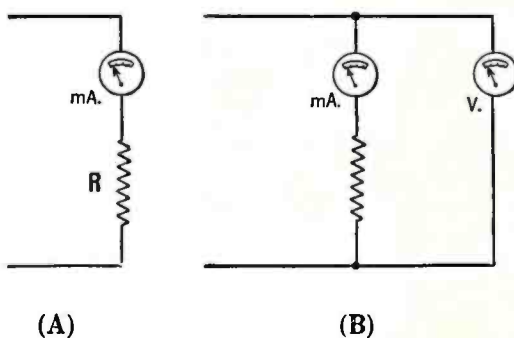

Fig. 1
The theory may seem a little complicated, but the method about to be described is simple and quick. There is a definite, though unknown, amount of resistance between the two points whose difference in potential is desired. Let this resistance be R, let the current through it be I, and the true voltage across it be E. Then by Ohm's Law $R = E/I$ expressed in ohms, volts, and amperes. Of these three unknown quantities, the current is determined most easily, by inserting a milliammeter in series with the load as shown in Fig. 1 (A) and noting its reading. Now connect the low-resistance voltmeter across both the milliammeter and the load, as shown in Fig. 1 (B). This will immediately cause a change in the reading of the milliammeter, as explained above. Let this new current reading be I' and let the reading of the voltmeter be E'. Here again, by Ohm's Law, $R = \frac{E'}{I'}$ (the resistance of the milliammeter is practically zero). Then, if we have $R = \frac{E}{I}$, we know that $\frac{E}{I} = \frac{E'}{I'}$ whence $E = E' \times \frac{I}{I'}$. In other words, the true voltage across the